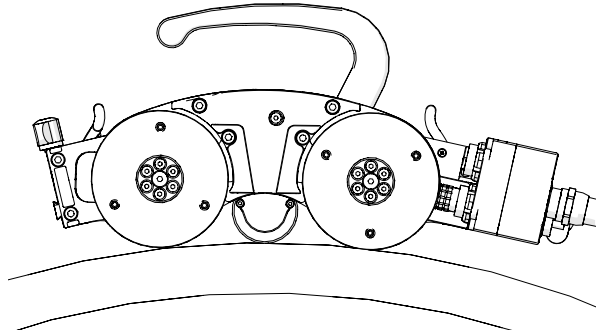

Fig. 287 - Align swivel mounts parallel to scan surface
7. Align front swivel mounts and umbilical mount to appropriate relationship to the scan surface (Fig. 287).